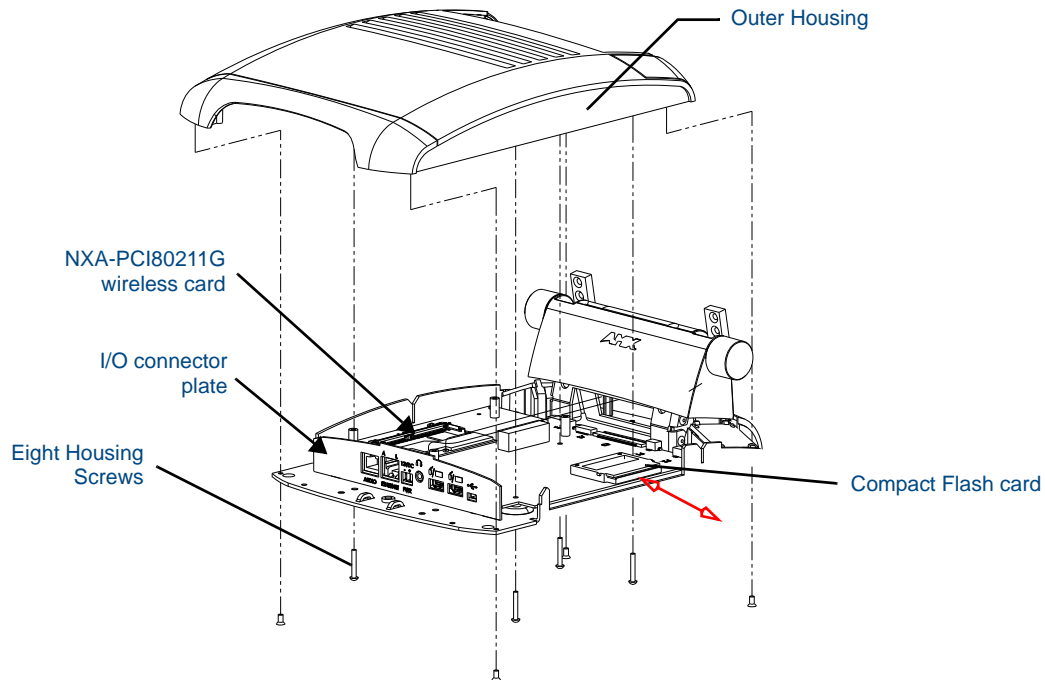
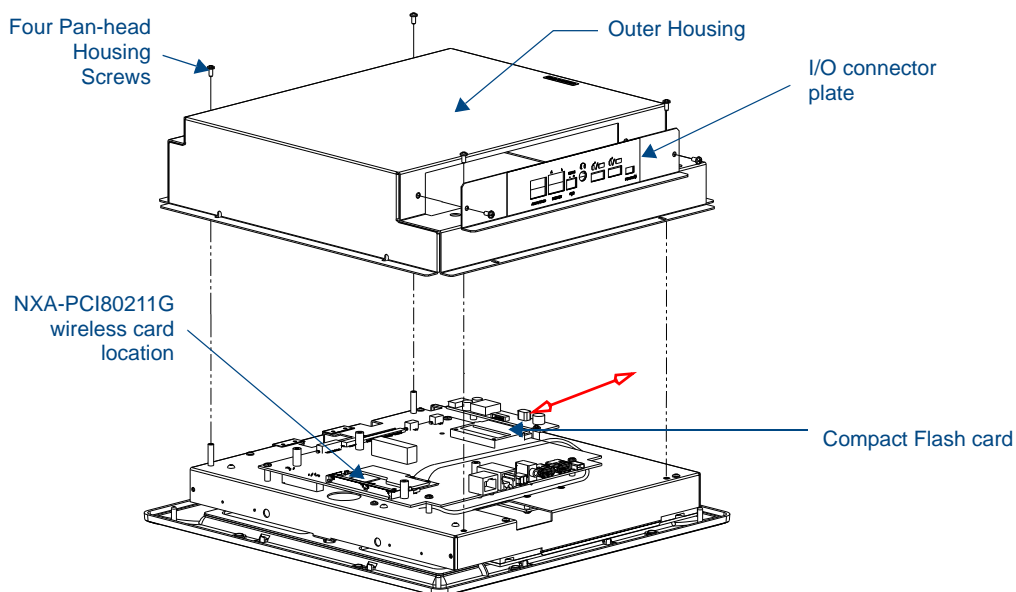

FIG. 21 Location of the Compact Flash card and I/O plate on NXT
FIG. 24 Location of the Compact Flash card and I/O plate on NXD
1. Discharge any static electricity from your body by touching a grounded metal object and then locate the existing Compact Flash card (*factory-shipped with 128 MB*) on the main board (FIG. 21 for Table Top panels and FIG. 24 for Wall Mount panels).
1. Obtain the I/O connector plate and slide it back into position (FIG. 21).